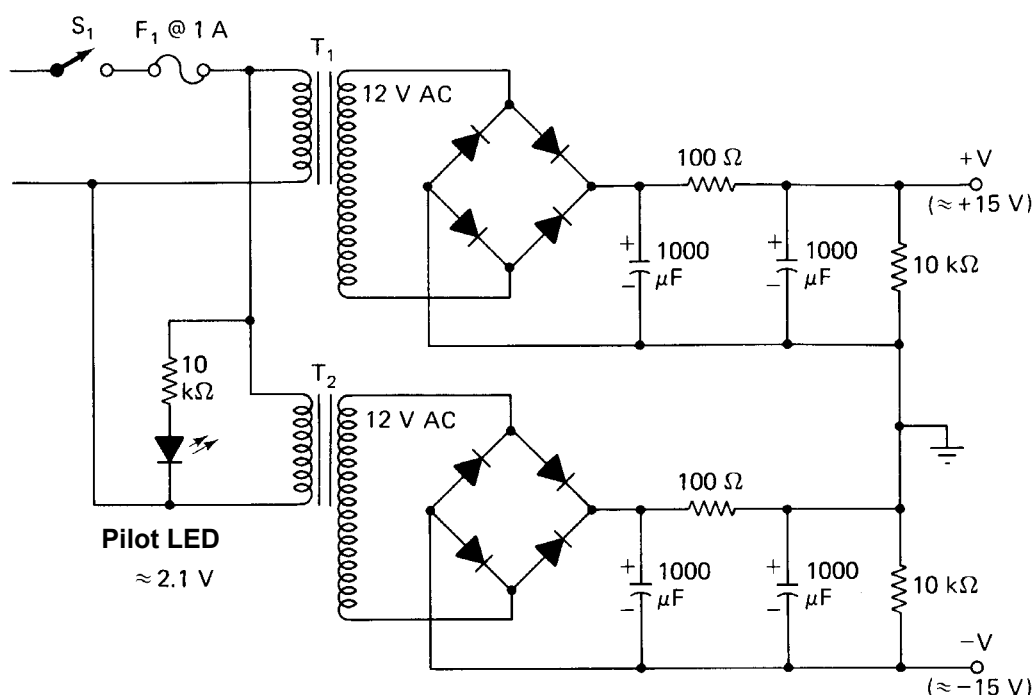

**FIGURE 7.1 – The split-power supply used with operational amplifiers**
- 7.1 Operational amplifiers often rely on split-power supplies for its operation. Split-power supplies have both a positive and a negative supply. FIGURE 7.1 shows an example of such a split-power supply.